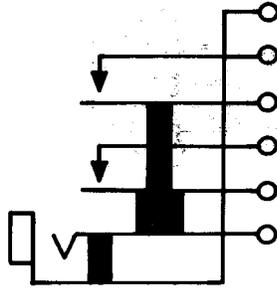

Fig. 7—361C Jack
2.07 361C: This single-mounted jack (Fig. 7) is heavily insulated and intended to be mounted with the springs in a vertical plane. The 361C jack is used with the 347 plug.